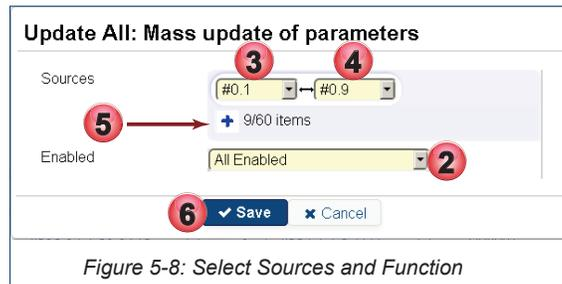

Figure 5-8: Select Sources and Function
2. Select the desired function that the tool is intended for as some have more than one possible function, Figure 5-8. In this example case it is enabling the selected sources (channels).